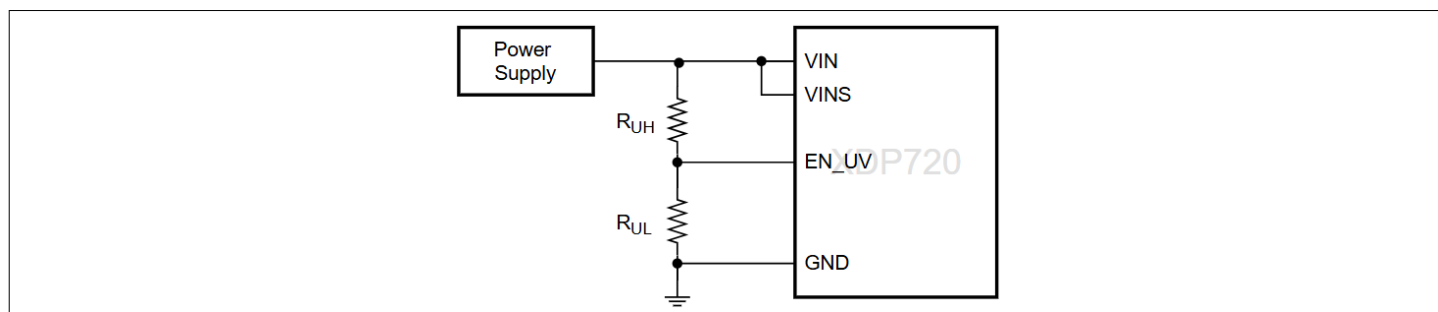

Figure 6 Input undervoltage protection
Generally, every system that uses an eFuse is designed for a specific operating voltage range. The XDP720 has two undervoltage protections for monitoring the minimum input and output voltages. By default, the input undervoltage is configured to sense the voltage at the VINS pin using a digital comparator. When VINS voltage falls to/below the digitally programmed limit, the input undervoltage protection (UV) is triggered. If needed, the device can be configured to use an analog comparator at the EN_UV pin for faster response. When the EN_UV pin voltage falls to/below $V_{UV_LTH_P}$ (or $V_{UV_LTH_S}$), the input undervoltage protection (UV) is triggered. The equation below can be used to calculate the values of the resistor divider network at the EN_UV pin as shown in Figure 6. At a given time, the input undervoltage protection can be configured to use either the digital comparator or the analog comparator. The output undervoltage protection is only achieved using the digital comparator at the VOUTS pin. Depending on the device configuration, the MODE command is used to select the appropriate comparator modes for UV and OV detections.